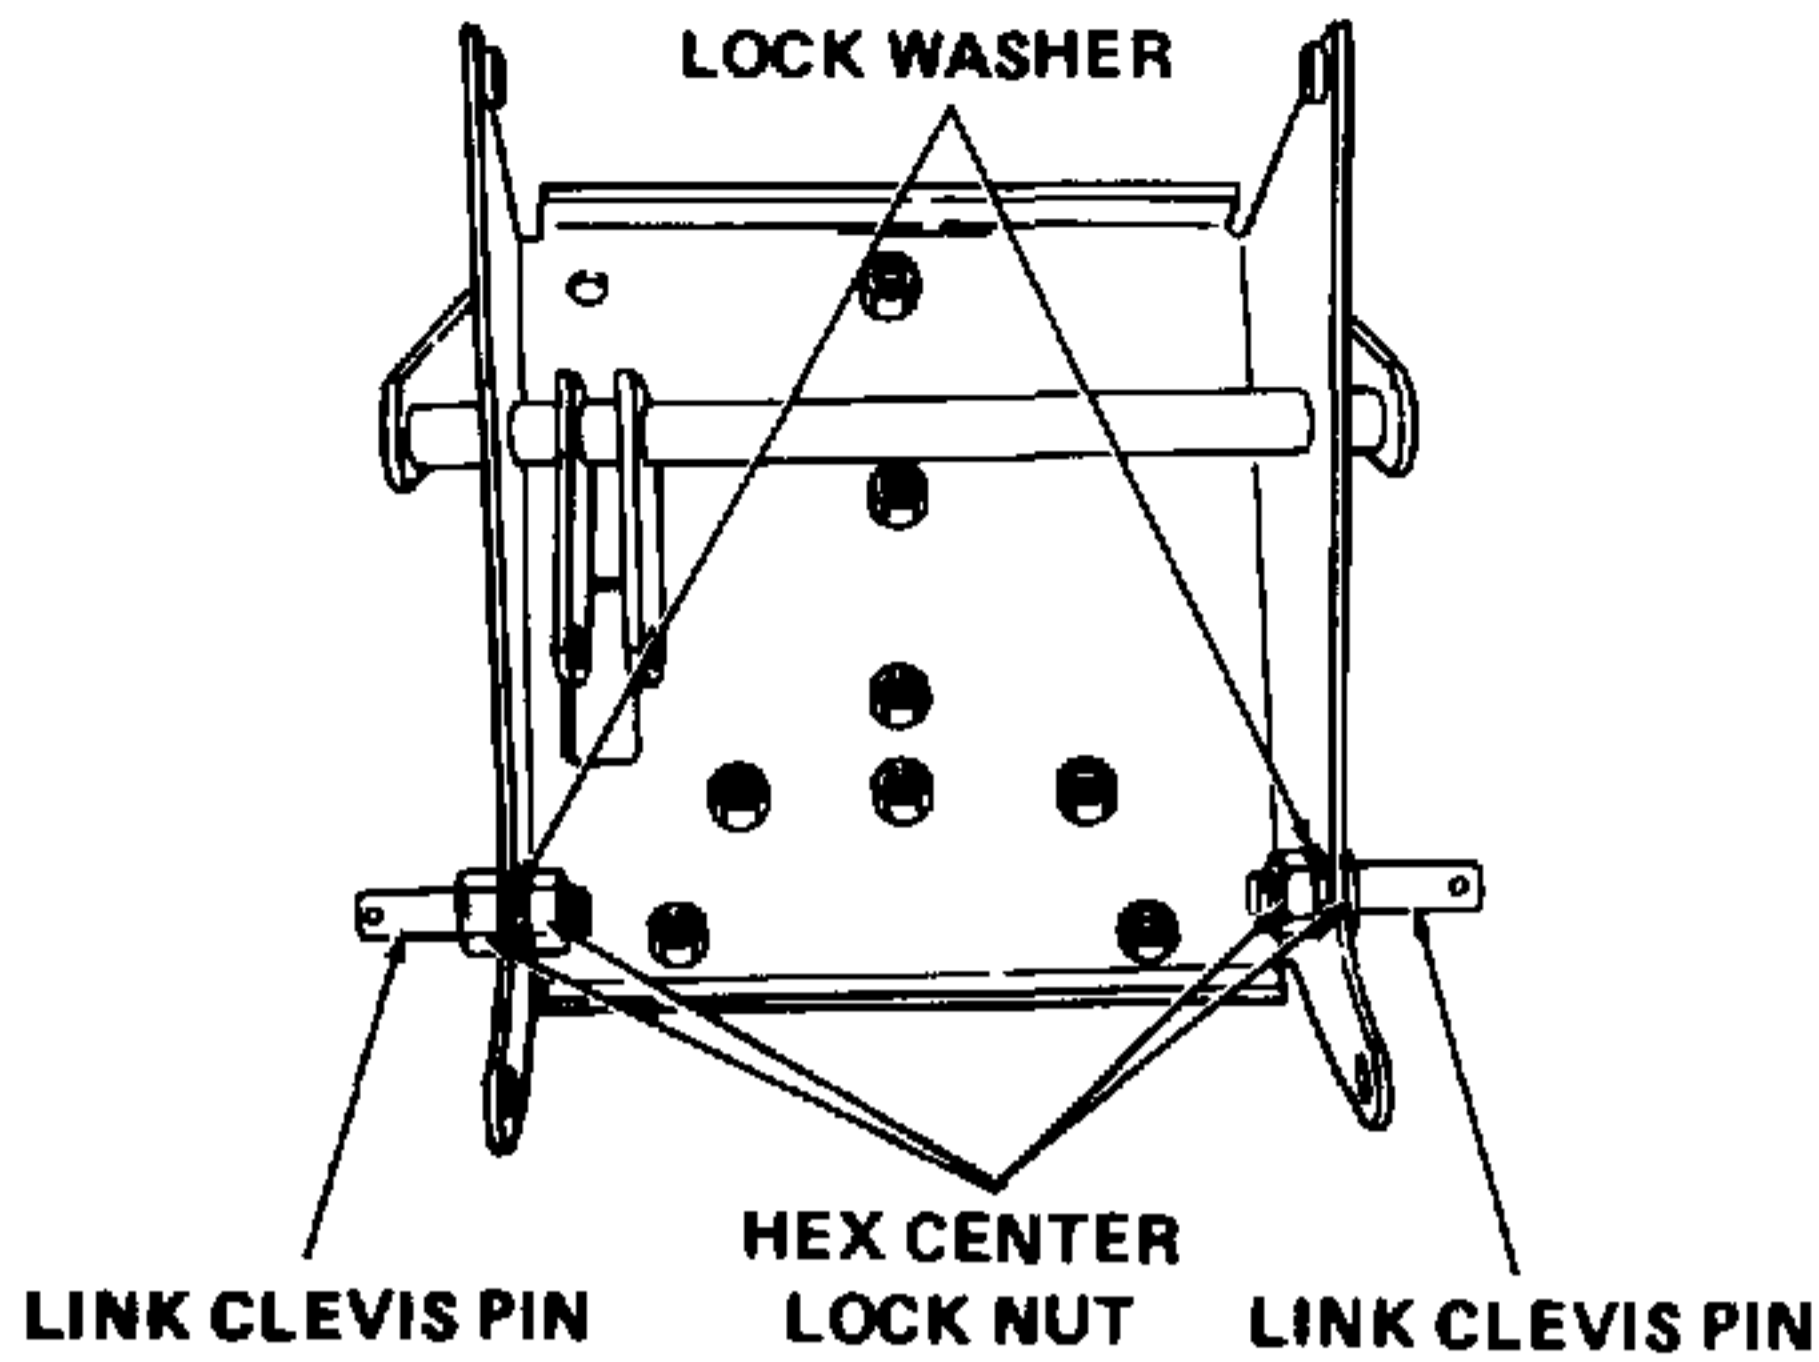

Figure 7-45. Assembling 3-Point Hitch Plate.
- Insert threaded ends of link clevis pins (3, Figure 7-40) into sides of 3-point hitch plate assembly and secure with lock washers (4) and hex center lock nuts (5). Refer to Figure 7-45.